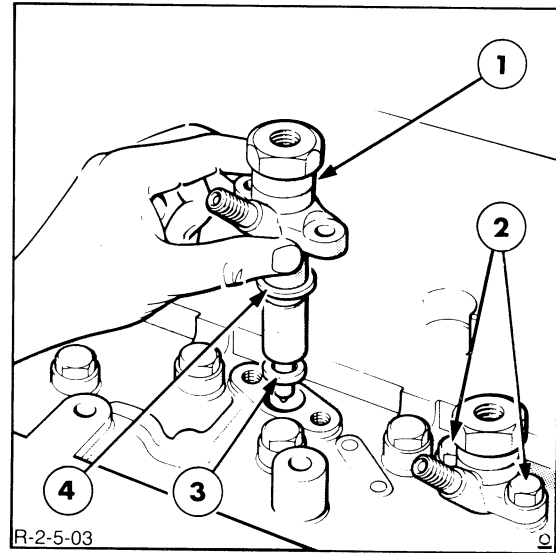

Figure 7
16. Clean the area surrounding the fuel injectors. Hold the leak-off pipe at each injector and carefully disconnect the fuel injector leak-off pipes then remove the bolts and carefully withdraw the fuel injectors and washers, Figure 7.